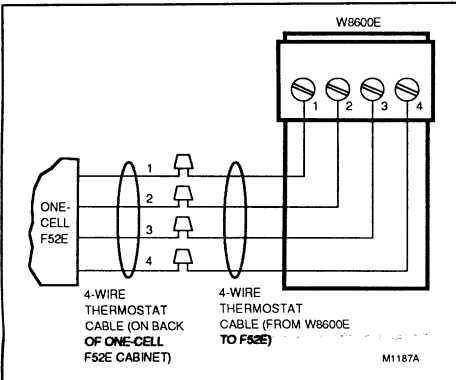

Fig. 3—Wiring the W8600E to the F52E Electronic Air Cleaner's power box terminal strip (one-cell model).
- Connect F52E wires to W8600E wires, matching numbers (1 to 1, 2 to 2, 3 to 3, 4 to 4), as shown in Fig. 3.